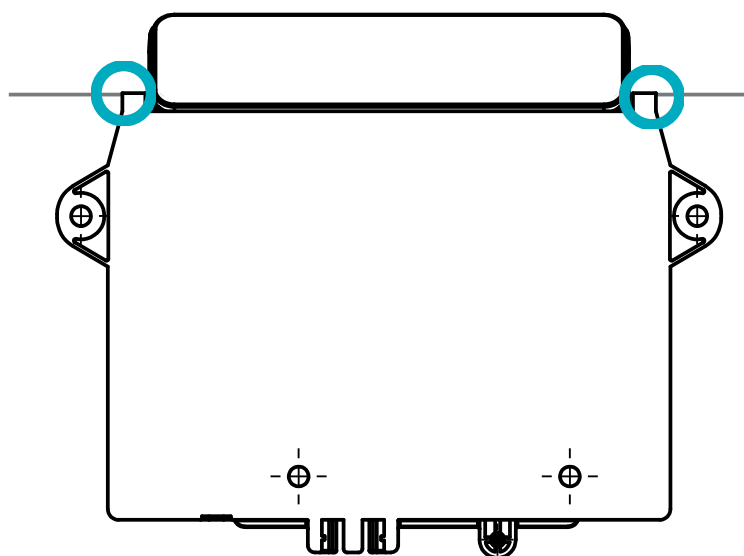

Fig. 11: Positioning the TOUCHdown on the Table Top
1. Position the Handset under the table top and mark the position of the drilling holes (Fig. 11).